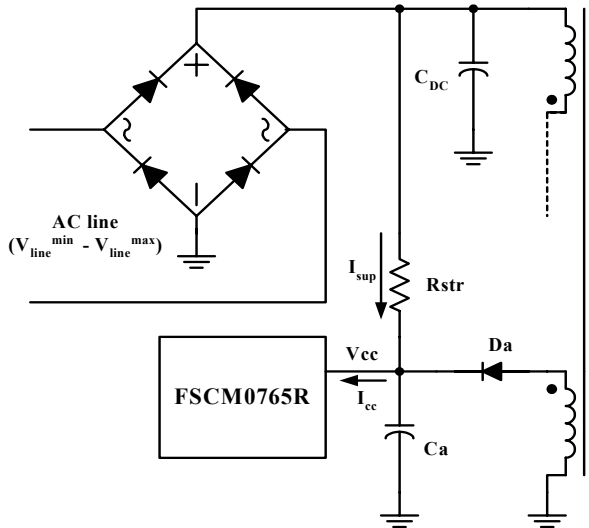
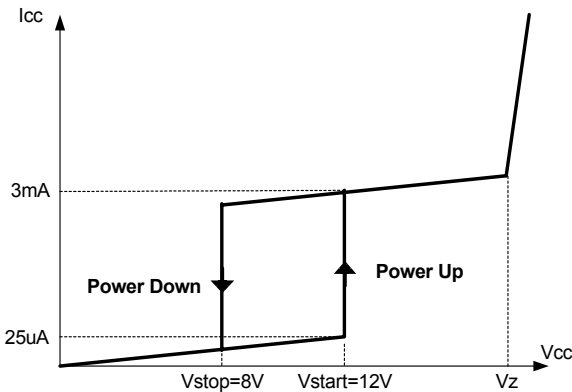

Figure 4. Startup circuit
Figure 5. Relation between operating supply current and Vcc voltage
1. Startup : Figure 4 shows the typical startup circuit and transformer auxiliary winding for FSCM0765R application. Before FSCM0765R begins switching, FSCM0765R consumes only startup current (typically 25uA) and the current supplied from the DC link supply current consumed by FPS (I_{cc}) and charges the external capacitor (C_a) that is connected to the Vcc pin. When Vcc reaches start voltage of 12V (V_{start}), FSCM0765R begins switching, and the current consumed by FSCM0765R increases to 3mA. Then, FSCM0765R continues its normal switching operation and the power required for this device is supplied from the transformer auxiliary winding, unless Vcc drops below the stop voltage of 8V (V_{stop}). To guarantee the stable operation of the control IC, Vcc has under voltage lockout (UVLO) with 4V hysteresis. Figure 5 shows the relation between the current consumed by FPS (I_{cc}) and the supply voltage (Vcc).